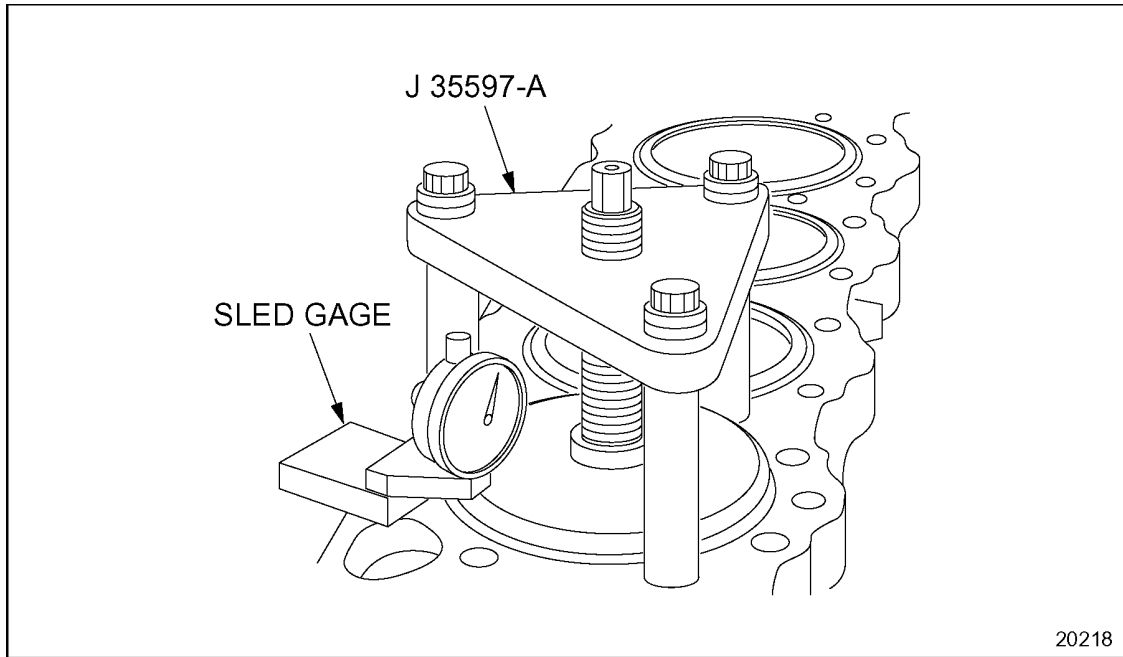

Figure 1-266 Cylinder Liner Installation Tools
5. Install the cylinder liner installation tool, J 35597-A, over the liner to be installed. See Figure 1-266.
10. Install a dial indicator sled gage. See Figure 1-266.